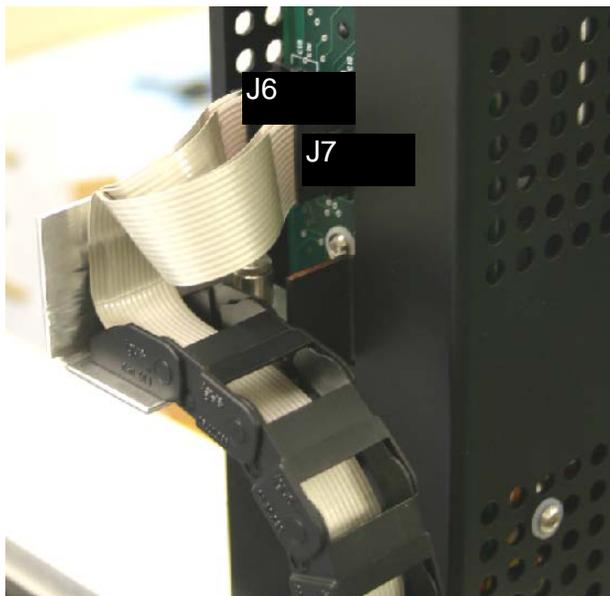

Figure 7-2: Z-Drive Cables
2. Remove the Cables (Figure 7-2)